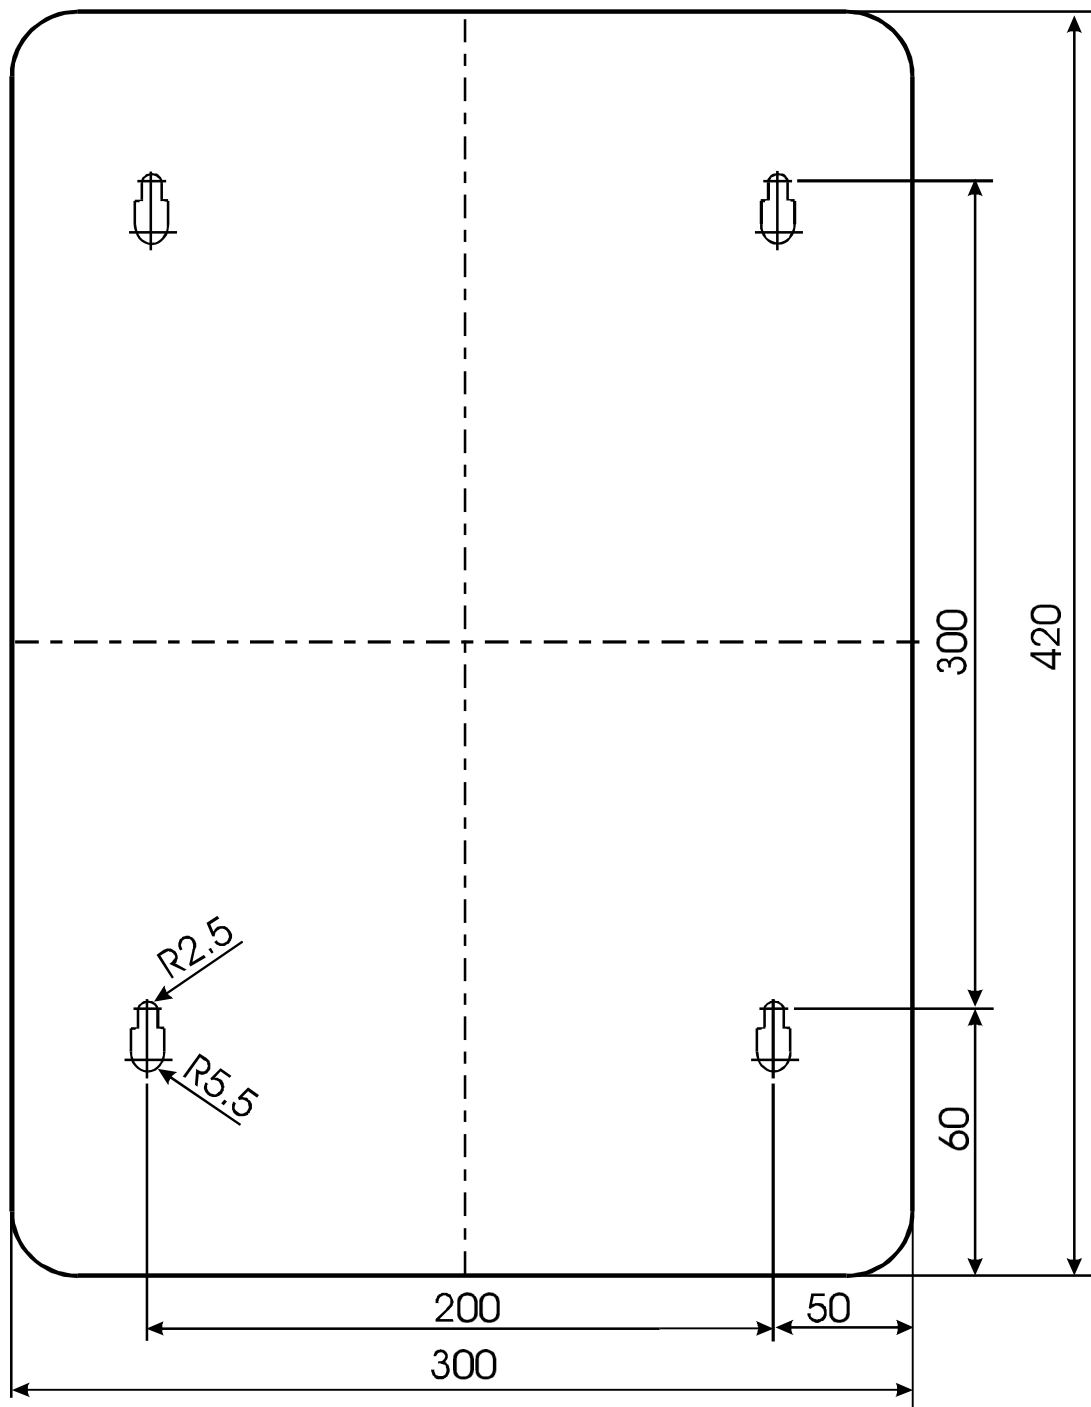

Figure 2 - KSU Dimensions (mm)
- Secure the KSU with screws using mounting holes in flanges on right and left sides (Figure 2). Do not over-tighten the screws or the slots on lefthand side of KSU could be squeezed closed.